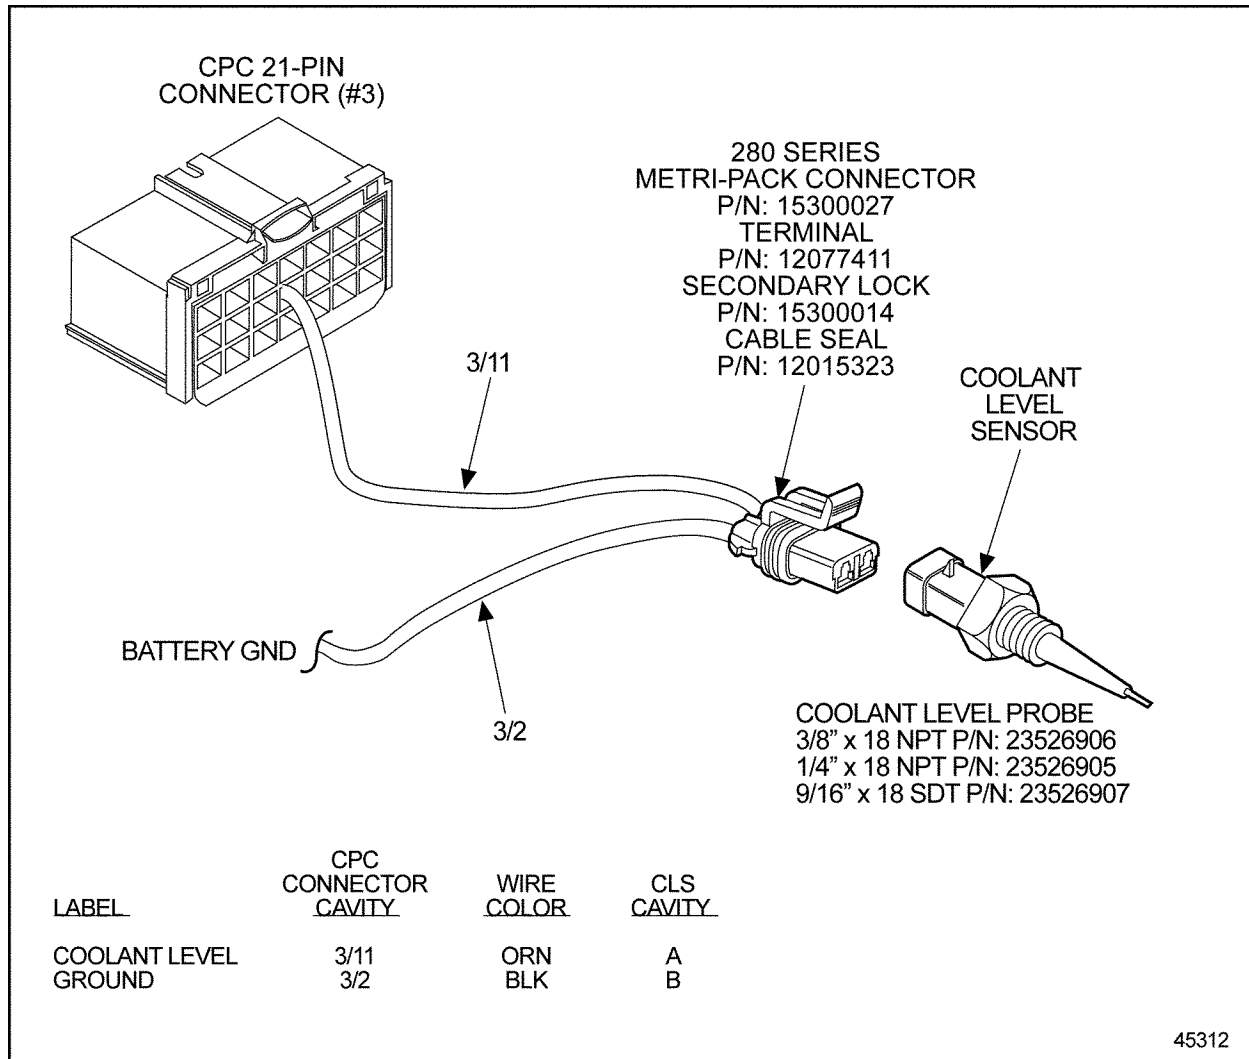

Figure 10-2 Engine Coolant Level Sensor Installation for CPC
- [b] If the coolant level in the reservoir is within limit, replace the sensor (see Figure 10-2). Refer to section 10.1.2.1.